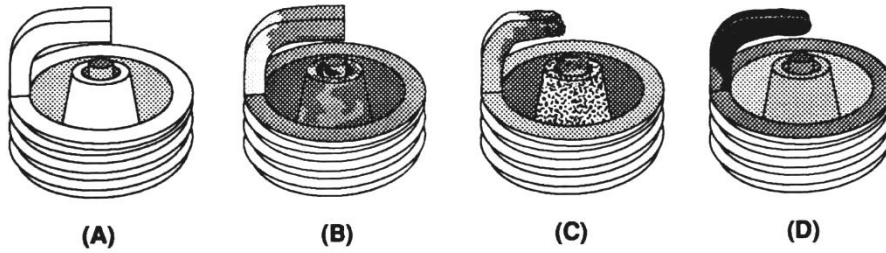

Figure 15 Spark Plug Condition
1. Perform a dynamometer pull or a full throttle pass down the racetrack. Note the power reading or vehicle mph (not e.t.). Examine the spark plugs for an indication of lean or rich nitrous/fuel conditions (refer **Figure 15** to for tips on reading the spark plugs). For this application, the air/fuel mixtures at WOT tend to be very rich in stock form. You may wish to examine a plug after a NO-nitrous pass or dyno pull for comparison purposes.